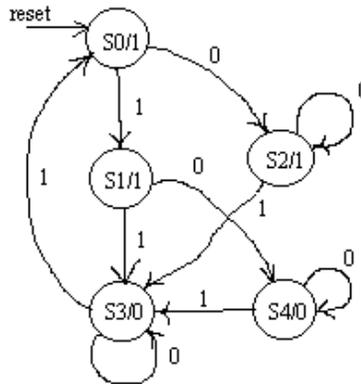

Figure 1. Moore FSM for Q2
2. Write a behavioral VHDL model for the following Moore state diagram (see figure 1). Your VHDL code will implement the state transitions for the states described in the diagram below. Your code will have two processes. The first will be a synchronous process using a case statement to generate the next state based on the input and the current state. The second will be a synchronous process that will implement the reset or setting the state to the next state. Let the input be X, output Z, and use positive edge-triggered flip-flops for the state register. Simulate in Quartus or Modelsim, being sure to force the circuit to traverse all states.